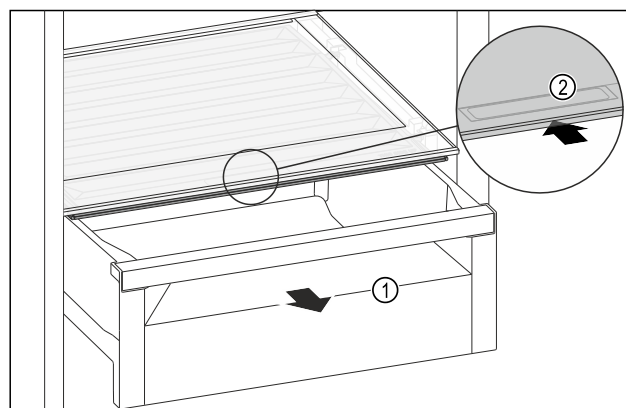

Fig. 85
- Pull out the drawer Fig. 85 (1).
- Grip the handle recess Fig. 85 (2) on the lid while pulling the lid backward at the same time.